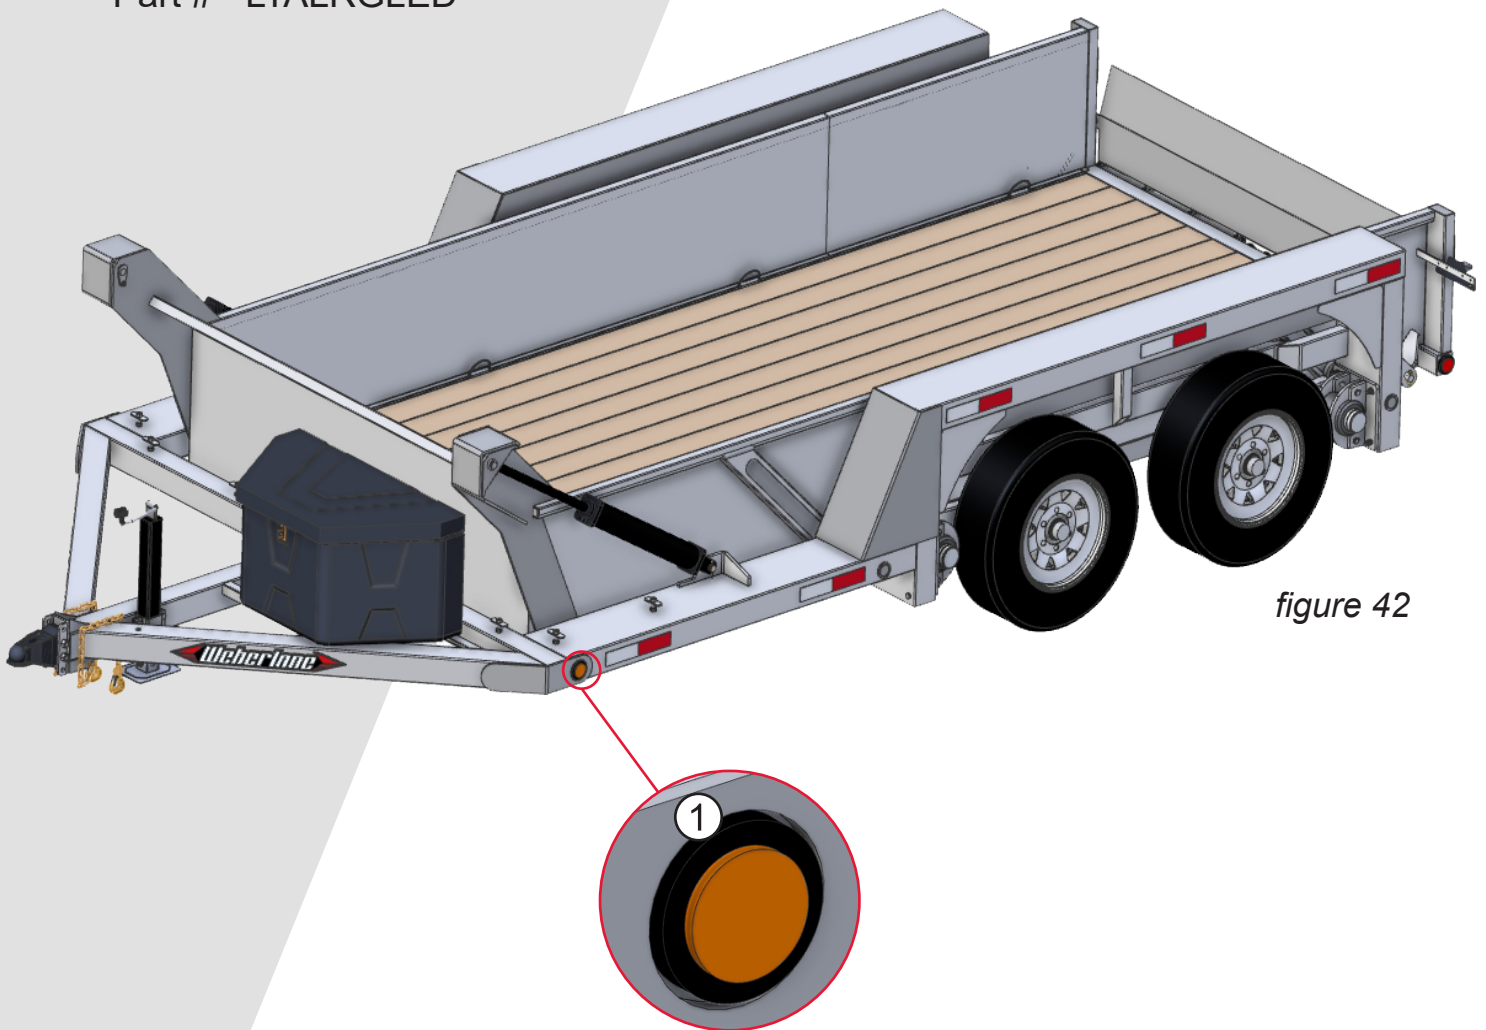

figure 42
1. FRONT AMBER LIGHTS - 1 PER SIDE (See figure 42):